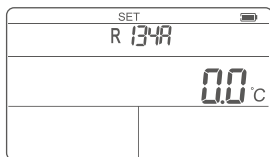

FIG. 7 Temperature Unit Setting Interface
2. Press the  or  key briefly to switch the temperature unit [FIG.7].